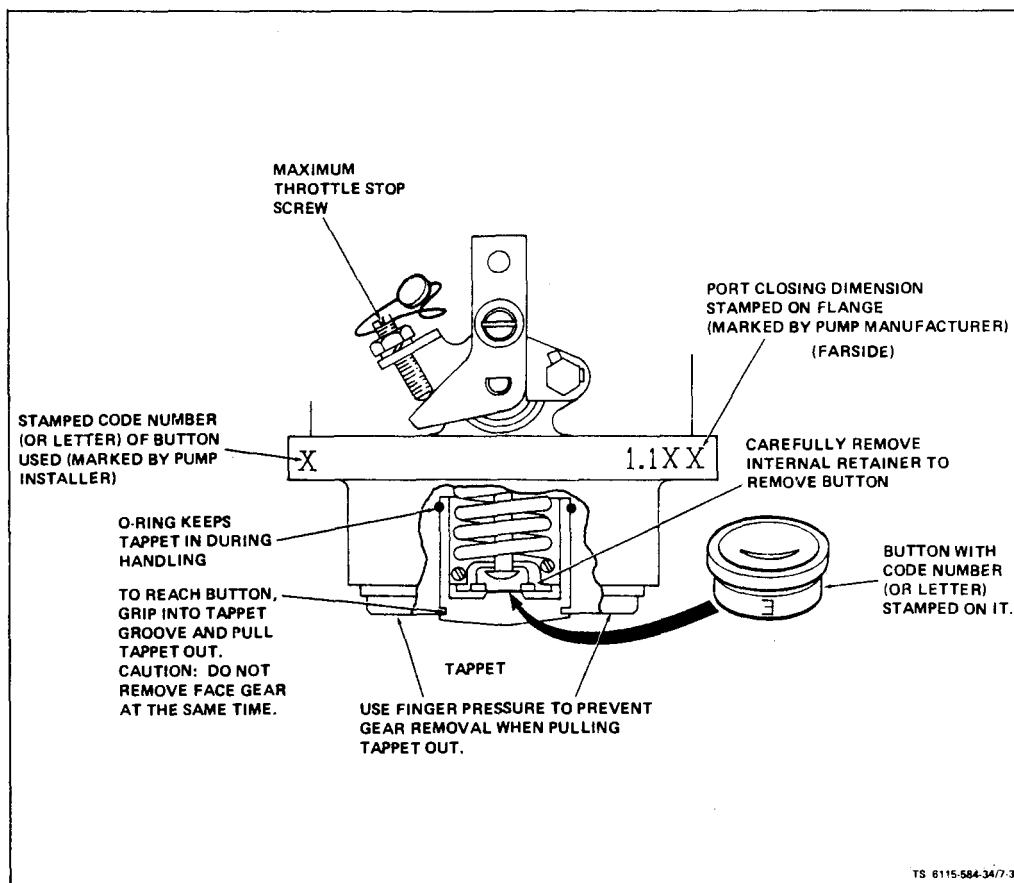

Figure 7-33. Injection Pump Adjustment and Button Removal
(4) When removing a pump for replacement, record the button thickness and port closing dimensions as stamped on the side of the pump mounting flange (figure 7-33). These values are important in timing a new pump to the engine.